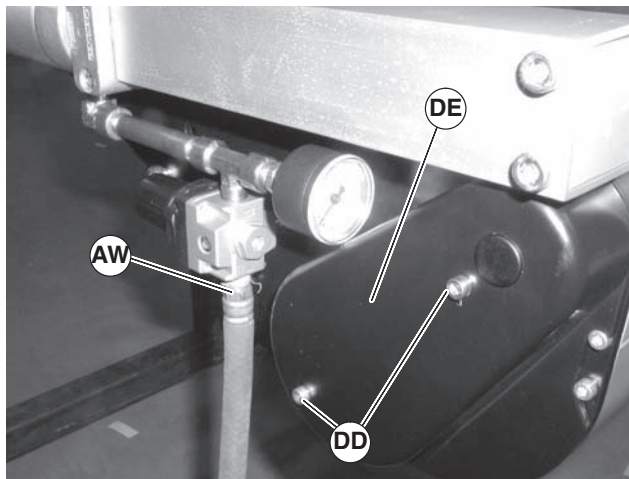

Figure 110
1. Remove air supply (Figure 110, item AW) from center drive module.
2. Remove screws (Figure 110, item DD) and cover (DE).
8. Reinstall cover (Figure 110, item DE). Tighten screws (DD) to 69 in-lbs (8 N-m).